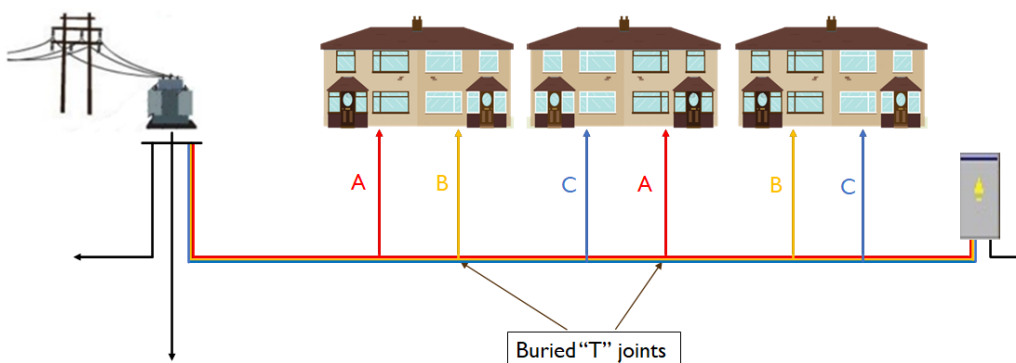

Figure 1.1: Network with consumers fed from underground Tee-joints
- i. the suspect cable cannot be isolated for fault-finding using a surge generator due to the topology of the network. An example of this is a system where individual consumers are fed from underground tee-joints, such as the example in Figure 1.1.